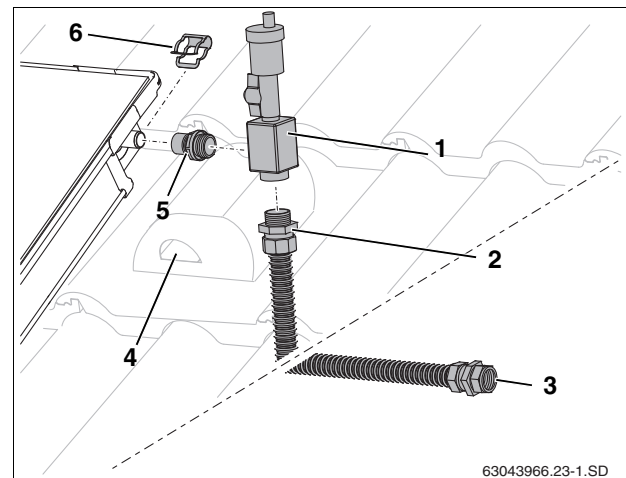

Fig. 54 Fitting the air vent (insulation not shown)
- Firmly screw nipple (Fig. 54, [5]) and connection pipe (Fig. 54, [2]) into vent body (Fig. 54, [1], O-ring gasket).
- Push vent body and nipple onto collector connection as far as it will go and secure with a clip (Fig. 54, [6]).
- Feed connection pipe together with the sensor cable through the penetration (Fig. 54, [4]) into the attic. Ensure that the air vent is positioned perfectly vertically otherwise the float will not work properly.
- Connect the supply piping from the pump station to the compression fitting (Fig. 54, [3]).